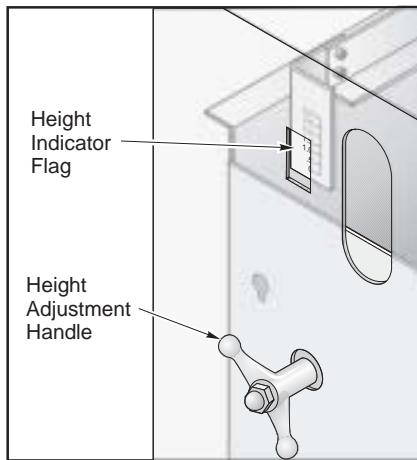

Figure 3.1 Height indicator flag and handle adjustment reference
1. Use the height adjustment handle to lower the transfer tray in order to insert the appropriate spindle liner into the rear of the spindle. Refer to Figure 3.1.
2. Place a bar in the transfer tray and raise the tray to align the shaft to the spindle liner. Reference the height indicator flag on the left of the Barfeeder and visually check alignment. Refer to Figure 3.1.